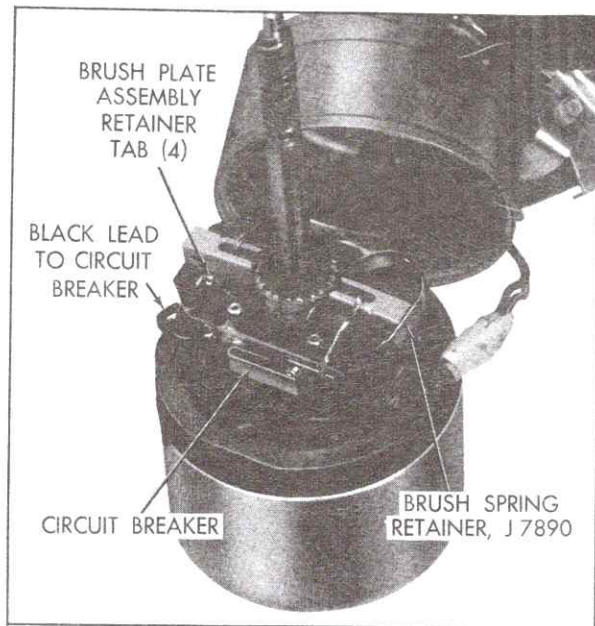

Fig. 12-27 Detaching Brush Plate
5. Unsolder the black lead from circuit breaker, Fig. 12-27.
6. Straighten out either set of two brush plate retainer tabs that retain the brush plate to the field coil retainers, Fig. 12-27.
7. Install Brush Spring Retainer, J-7890, over brush holder that has brush lead attached to circuit breaker, Fig. 12-27.
1. If necessary, splice the leads of the replacement case and field assembly to the corresponding wiper leads cut in step 11 of disassembly procedure. Solder and tape these joints. Refer to Fig. 12-27.
its brush holder; then position the brush plate assembly on the mounting tabs in the position shown in Fig. 12-27.
8. Remove brush retainer clips and resolder circuit breaker ground lead to circuit breaker, Fig. 12-27.